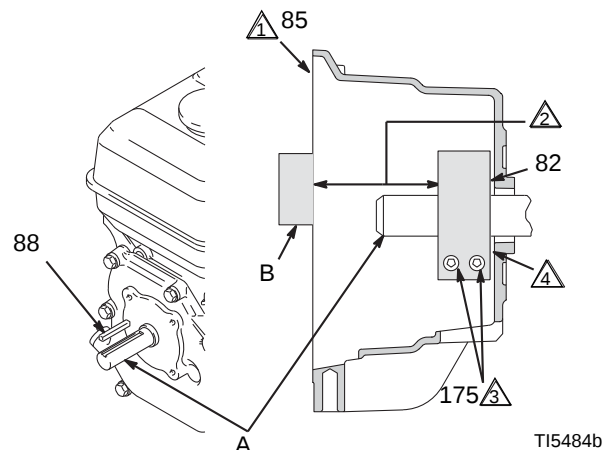

FIG. 9
4. FIG. 9. Loosen two screws (175) on clamp (82),
5. Push screwdriver into slot in clamp (82) and remove clamp.
1. FIG. 9. Install engine shaft key (88).
2. Tap clamp (82) on engine shaft (A) with plastic mallet. Maintain dimension shown note 2. Chamfer must face engine.
3. Check dimension: Place rigid, straight steel bar (B) across face of clutch housing (5). Use accurate measuring device to measure distance between bar and face of clamp. Adjust clamp as necessary. Torque two screws (175) to 125 +/- 10 in-lb (14 +/- 1.1 N•m).
- ① Face of clutch housing.
- ② LineLazer IV 3900: 1.55 +/- .010 in. (64.77 +/- 0.25 mm)